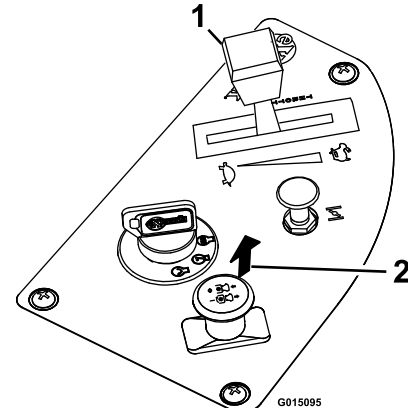

Figure 9
3. Pull out on the blade control switch, to the On position, to engage the blades (Figure 9).